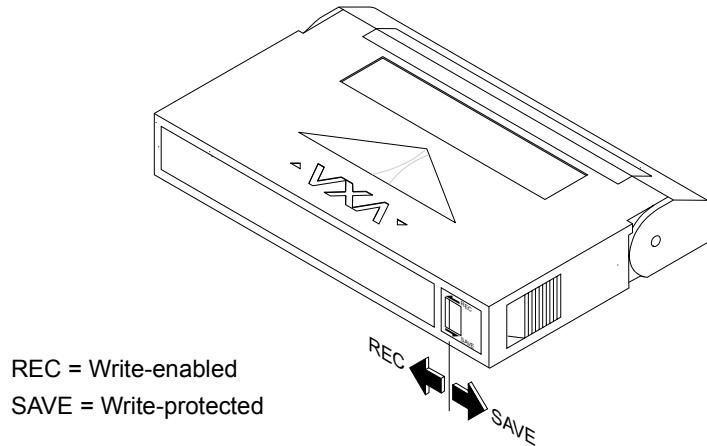

Figure 2-3 Setting the write-protect switch
1. Verify that the write-protect switch on each cartridge is set correctly, as shown in Figure 2-3. You can use a ball-point pen or similar instrument to set the write-protect switch.